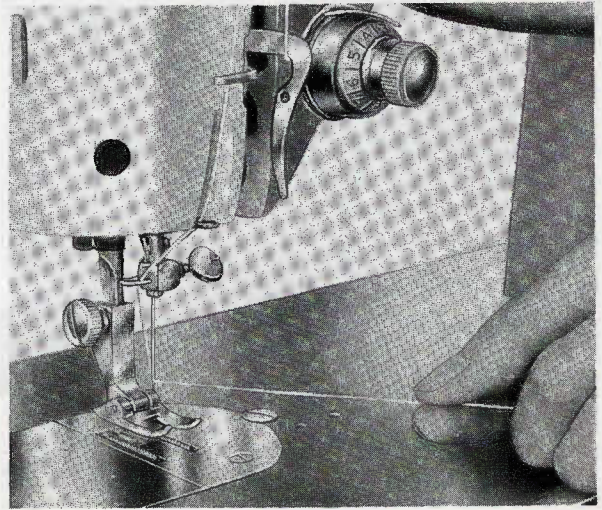

Fig. 12
3. Pull the thread you are holding, and the lower-thread will be brought up with it through the hole in the needle-plate, as shown (Fig. 12).